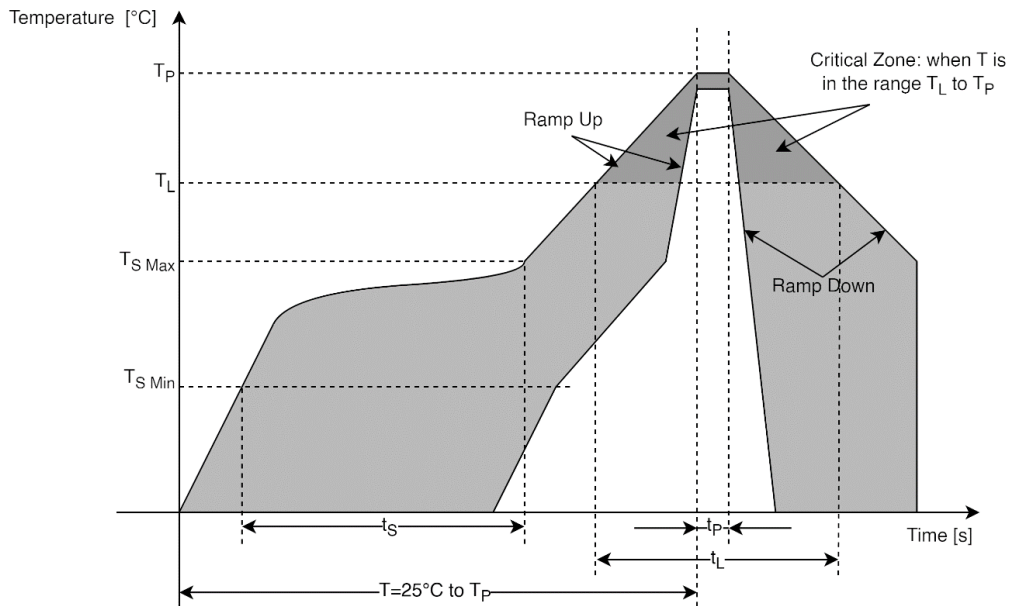

Figure 7. EPED003 ISO UART Micro Module Reflow Profile
- All dimensions provided on Figure 7. are in millimeters